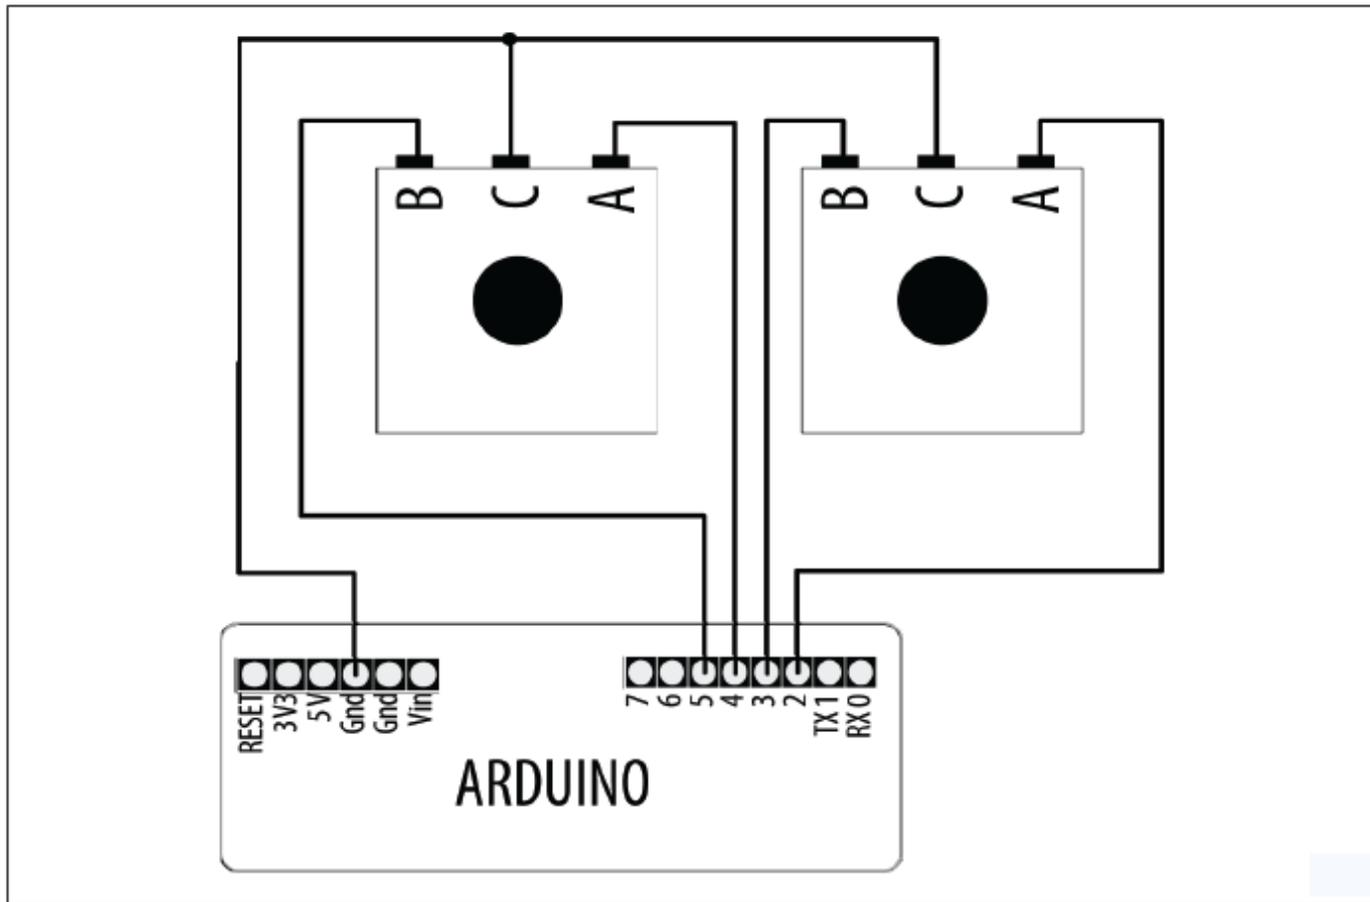

Figure 6-15. Connecting two rotary encoders
- The circuit uses two encoders, connected as shown in **Figure 6-15**. You can read more about rotary encoders in **Recipe 6.10**: